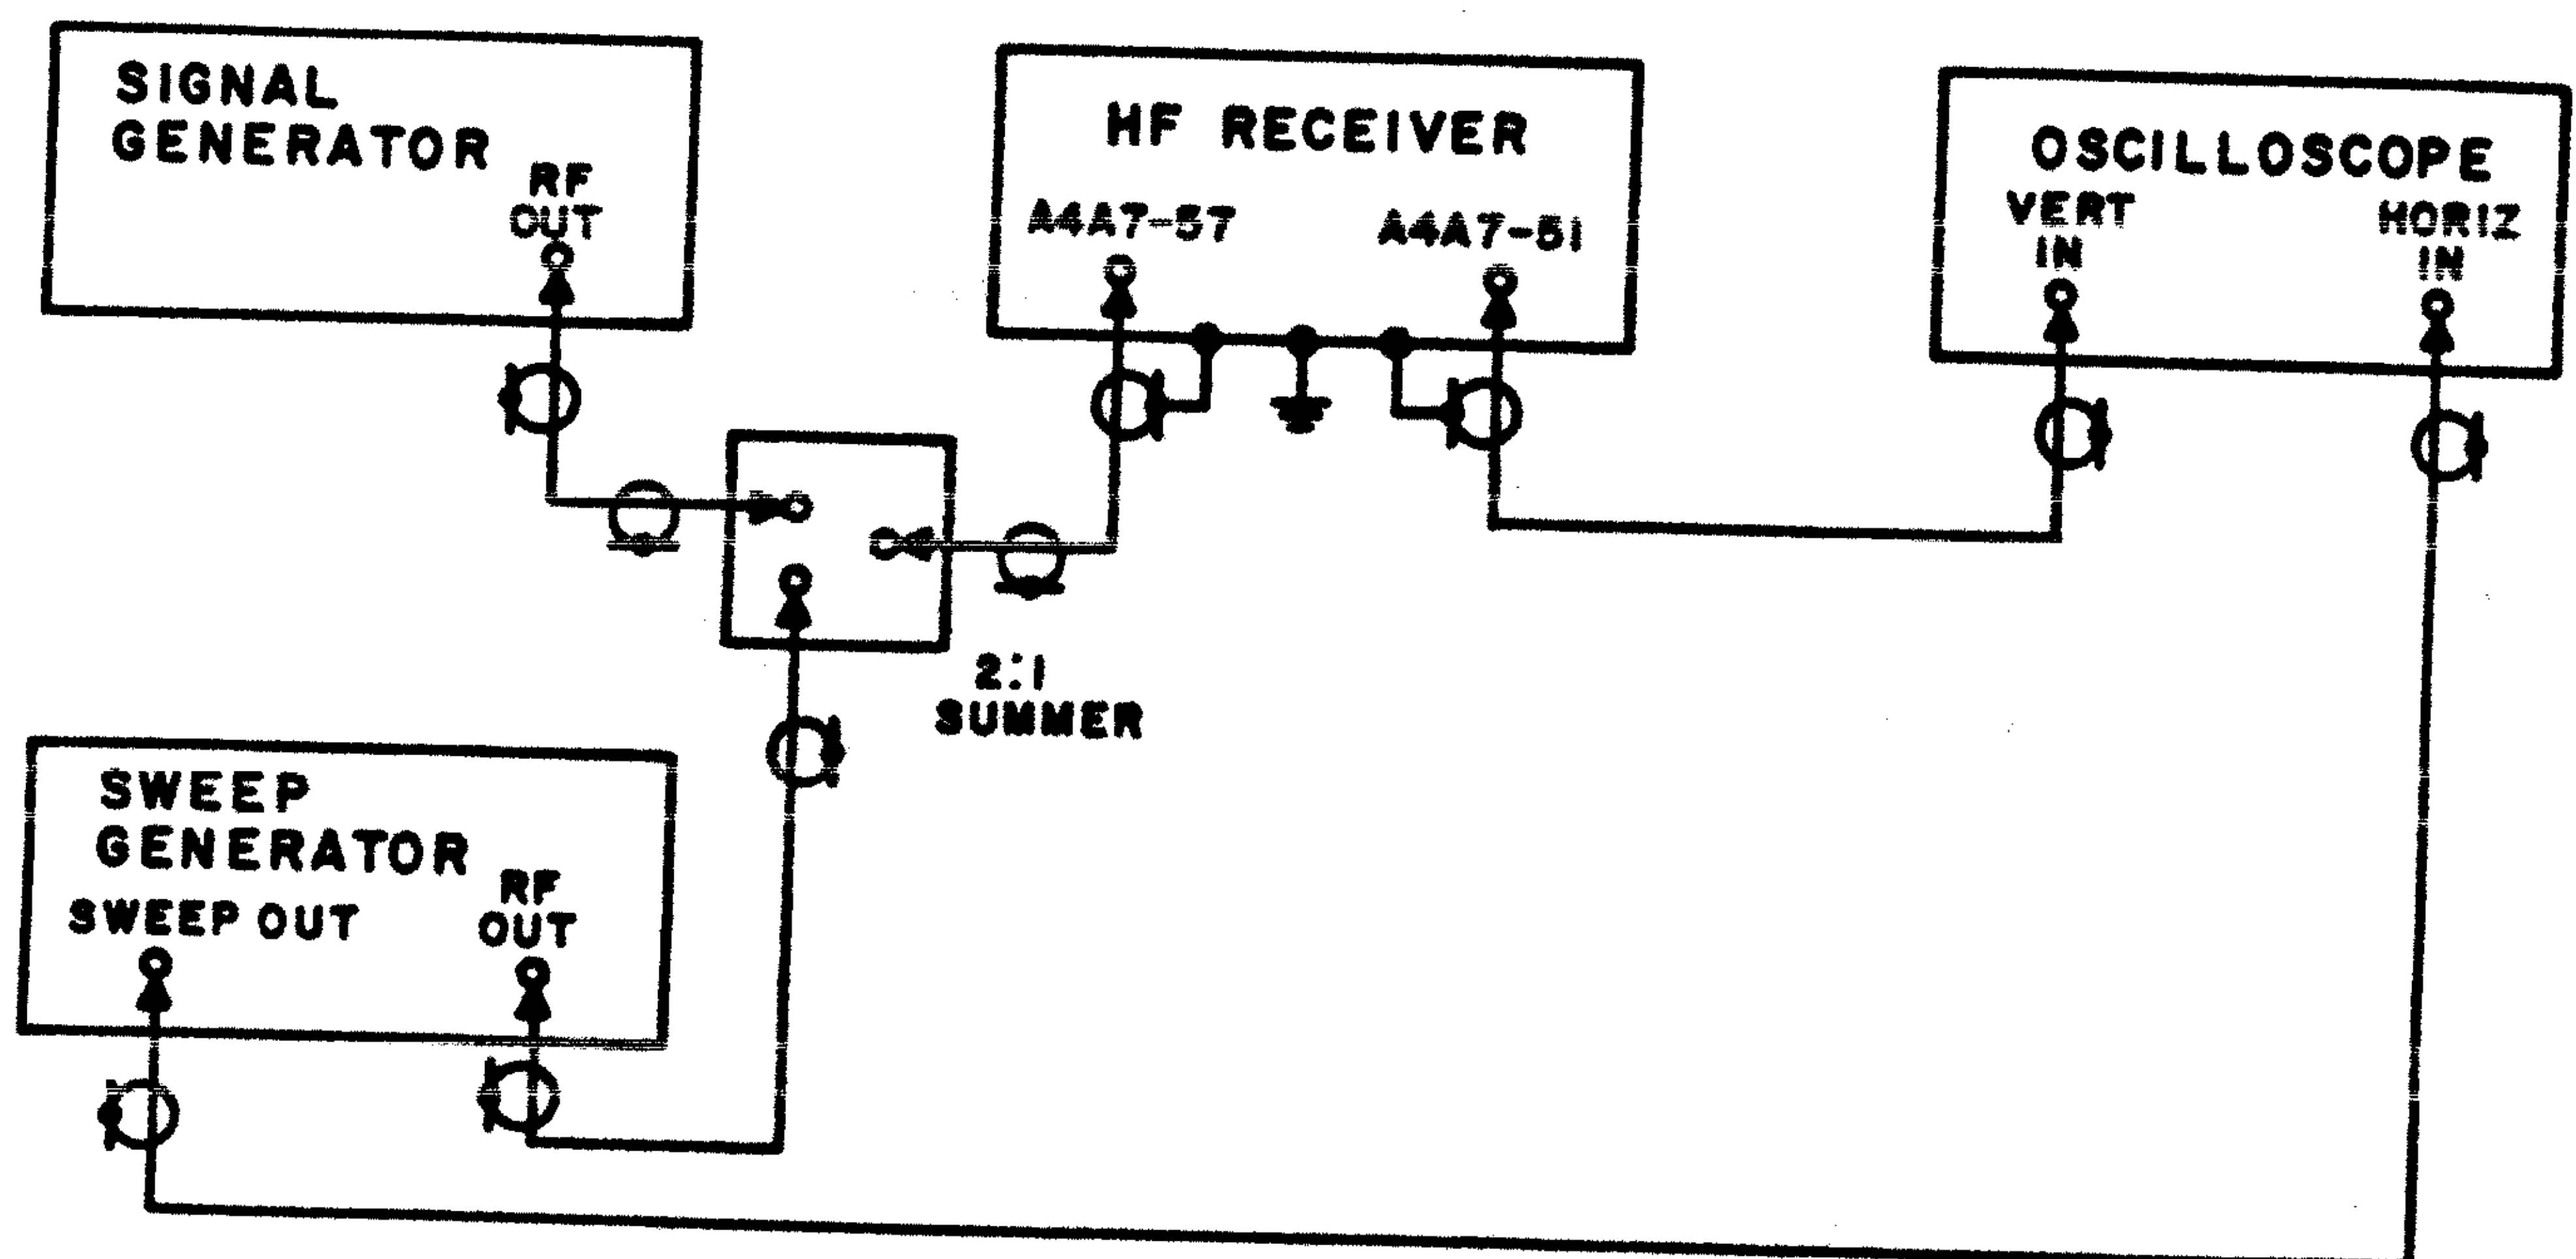

Figure 4-5. 455 kHz Amplifier/AM Detector Response Alignment, Test Setup
3. Connect the test equipment as shown in **Figure 4-5**.